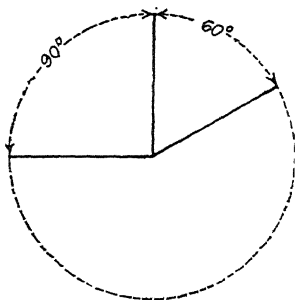

FIG. 161.
**180. Angles.**—An angle is the amount of the divergence between two straight lines that either meet in a common point, or would meet if sufficiently prolonged. The straight lines are called the sides of the angle and the meeting point is called the vertex of the angle. An angle is *measured* on the circumference of a circle drawn with the vertex as a center. The sides of the angle lay off a certain portion of the circumference. The circumference is divided into 360 parts or degrees and the number of degrees between the sides of the angle is the measure of the angle. For example, if one-fourth of the circumference is intercepted between the sides, the angle is measured by 90 deg. (one-fourth of 360 deg.), and is commonly spoken of as an angle of 90 deg., or a right angle (see Fig. 161). Also if one-sixth of the circumference is intercepted by the sides of the angle, the angle is measured by 60 deg., or in other words, it is an angle of 60 deg. (Fig. 161). For fine angular measurements, the degree is subdivided into 60 parts called *minutes* and the minutes are subdivided into 60 parts, called *seconds*. The notations used are degrees ( $^{\circ}$ ), minutes ( $'$ ), seconds ( $''$ ). The subdivisions of seconds are not used in ordinary machine work.